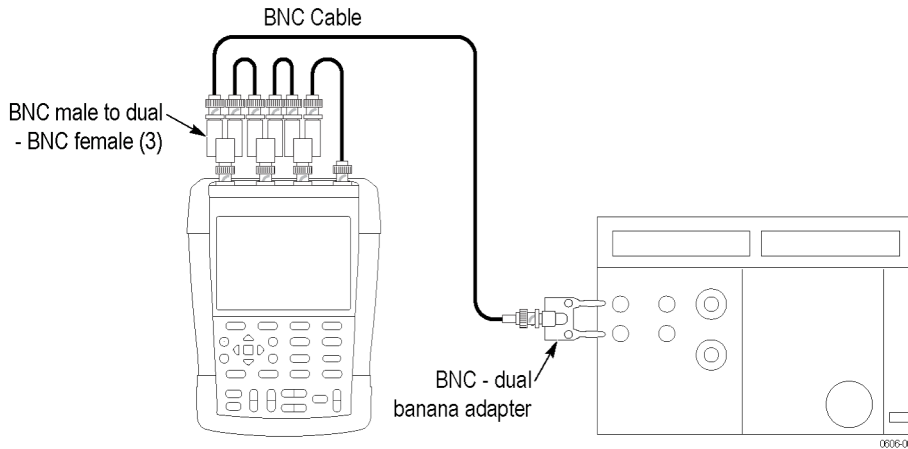

Figure 3: Setup for DC voltage accuracy test
1. Connect the test setup as shown. (See Figure 3.)
1. Connect the test setup as shown in the previous test. (See Figure 3 on page 6.)